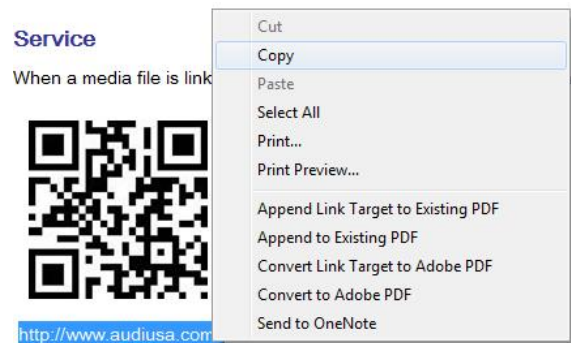

Figure 4. Selecting "Copy".
2. While the text is highlighted, right-click to open the shortcut menu. Select "Copy" (Figure 4) to copy the link.